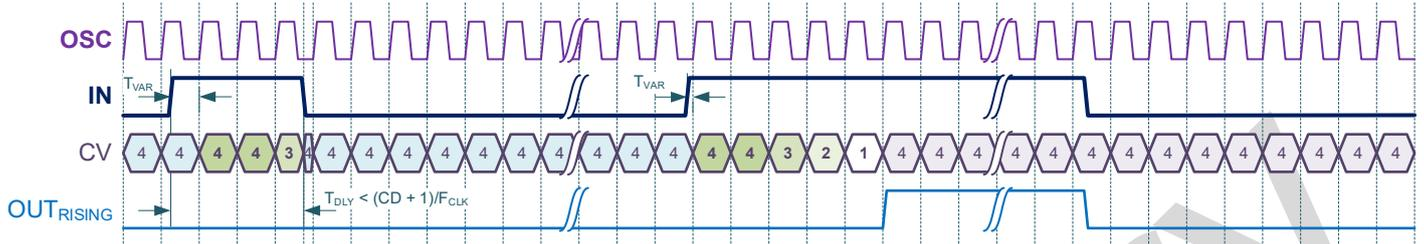
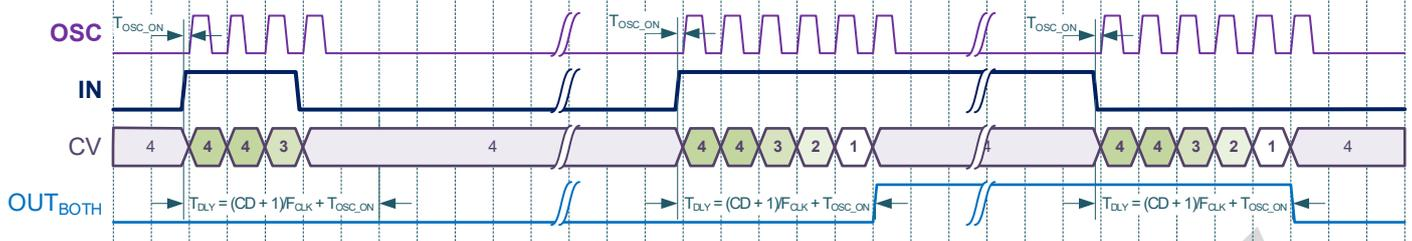

Figure 9.1. Delay Mode Timing Diagram (Rising Edge Detect, Forced OSC)
Figure 9.6. Delay Mode Timing Diagram (Both Edge Detect, Auto OSC)
- Delay (Figure 9.1...Figure 9.6)
In the Delay mode the TMR delays the input signal by the selected edge event (rising edge, falling edge, both edges) for a time determined by the Control Data, input clock signal and selected divider value. If input signal is shorter than the delay value, the signal does not propagate to the output. The timing diagrams of this mode is shown in the Figure 9.1...Figure 9.6.